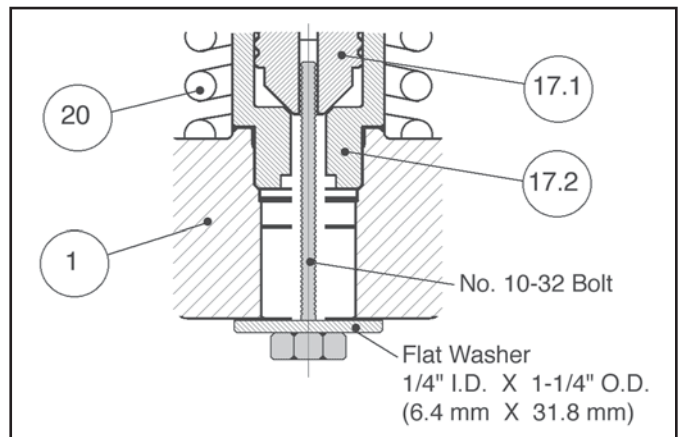

Figure 1: Special tool for collapsing piston spring (20).
10. Basic Regulator- (See Figure 1): Regulator may be rotated around the pipe axis 360°. Recommended positions are with spring chamber vertical upwards, or horizontal. Orient such that the spring chamber vent hole does not collect rainwater or debris.
1. For regulators with NPT end connections only, fabricate the special tool described in Figure 1. Rotate the No. 10-32 bolt CW to collapse the piston spring (20). This will hold the renewal unit (17) in place during disassembly. For all other end connection options, proceed with Step 2.
2. Securely install the body (1) in a vise with the spring chamber (2) directed upwards.
3. Loosen the adjusting screw lock nut (5) and rotate the adjusting screw (17) CCW until removed from the spring chamber (2).
4. Draw or embed a match mark on the body (1) and spring chamber (2) flanges.
5. If the special tool in Figure 1 is not being used, the piston spring (20) is always under tension. Therefore remove all flange bolts (13) except two located on opposite sides. Turn remaining two flange bolts (13) CCW using even increments. The piston spring (20) will force the body (1) and spring chamber (2) to separate.
6. Remove spring chamber (2), spring buttons (4), range spring (6), ball bearing (9), pressure plate (8), diaphragms (10), and diaphragm gasket (11).
7. Inspect pressure plate (8) for deformation due to over-pressurization. If deformed, replace.
9. If available, collapse the piston spring (20) using the special tool from Figure 1. If no special tool is available, proceed to Step 10.
10. Place new diaphragm gasket (11) and diaphragms (10) onto body (1).
11. Place multi-purpose, high temperature grease into depression of the pressure plate (8) and spring buttons (4) where the ball bearing (9) and adjusting screw (3) bears. In the center of the diaphragms (10), place the pressure plate (8), ball bearing (9), spring buttons (4), and range spring (6). Ensure spring buttons (4) are laying flat.
12. Aligning the matchmarks, place spring chamber (2) over the above stacked parts. Install flange bolts (13). Mechanically tighten flange bolts (13) in a cross pattern that allows the spring chamber (2) to be pulled down evenly. Tighten all flange bolts (13) to the following torque value: **All Sizes: 45–50 Ft-lbs (61–68 Nm)**.